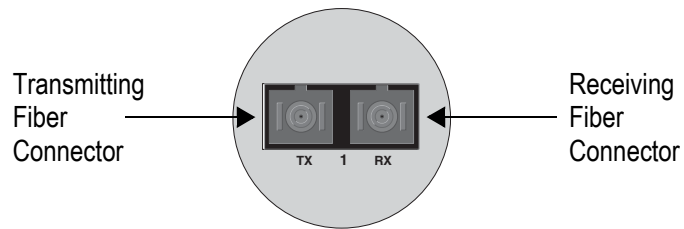

Figure 13. Dual SC Port
- ❑ Dual SC port, shown in Figure 13, consists of two separate connectors. Each connects to a separate fiber strand. One is for receiving data and the other is for transmitting data. When connecting a fiber optic cable to a SC port, be sure that the receiver fiber connector is connected to the transmitter connector on the remote end-node, and the transmitter fiber connector is connected to the receiver connector on the remote node.